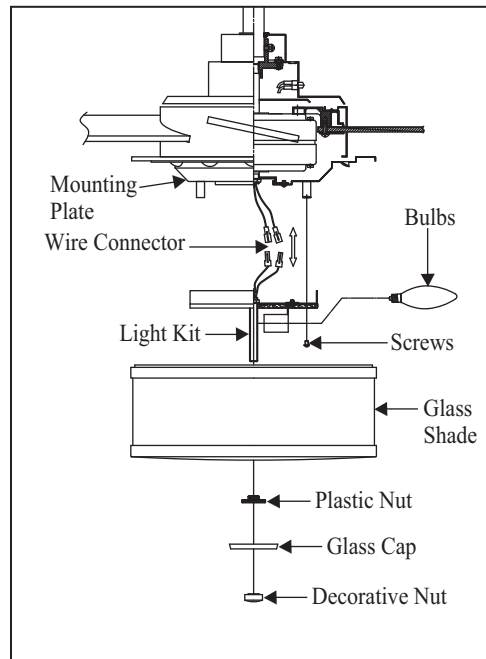

Figure 21
1. Remove 1 of the 3 screws from the mounting plate and keep it for future use. Loosen the other 2 screws. (Do not remove) (Fig. 21)
3. Place the key holes on the light kit over the 2 screws previously loosened from the mounting plate, turn light kit until it locks in place at the narrow section of the key holes. Secure by tightening the 2 screws previously loosened and the one previously removed. (Fig. 21)
the glass cap and decorative nut previously removed. Do not overtighten. (Fig. 21)